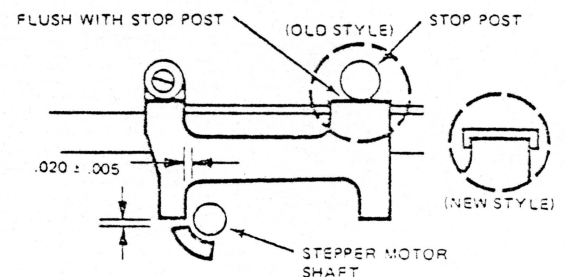

FIGURE 6. CARRIAGE LIMITER ADJUSTMENT
- Position the stop until it is flush with stop post (old style) or in the slot (new style) on the carriage assembly. Reference figure 6. Adjust the track zero cam stop horizontally and vertically until there is  $.020 \pm .005$  between the stop on the acuator cam and the stepper motor shaft. Reference figure 6.